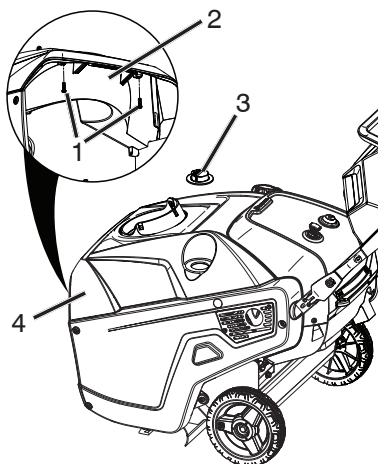

Figure 28
6. Remove two screws in plenum that hold top cover (Figure 28).
23. Reattach two screws through the rear covers and into the clip on the side cover (Figure 28).
28. Reinstall two screws in the plenum that attach to the top cover (Figure 28).